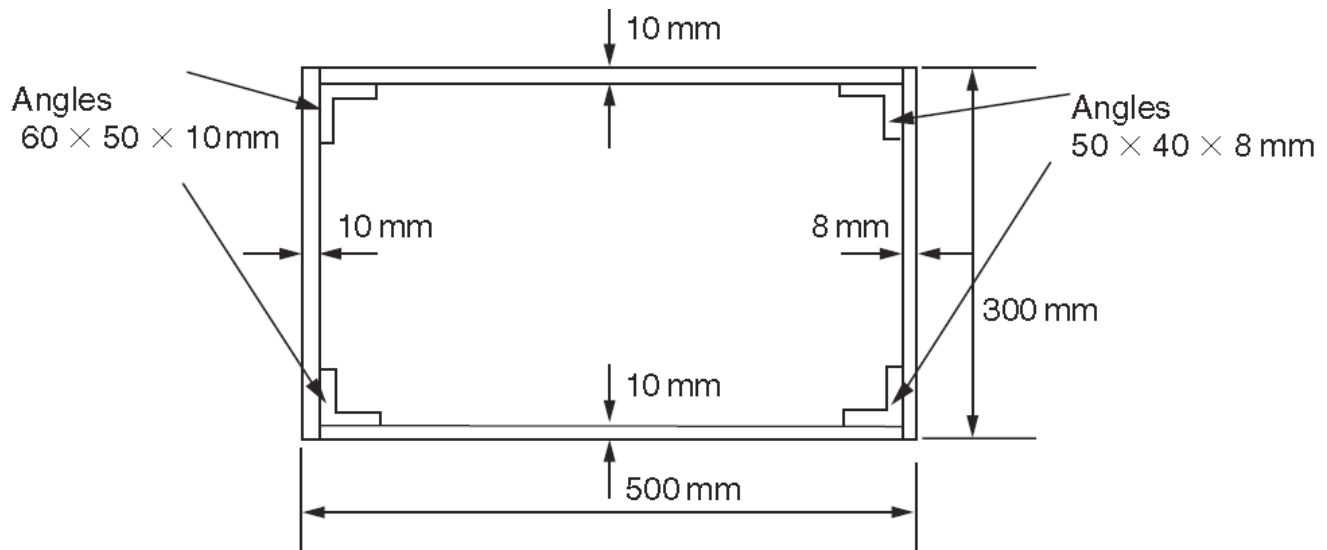

Figure: 5
- 13) Briefly explain how structural idealisation simplifies complex systems for analysis. (2)
- 14) Idealize the box section shown in figure 5 into an arrangement of direct stress carrying booms positioned at the four corners and panels which are assumed to carry only shear stresses. Hence determine the distance of the shear centre from the left-hand web. (4)